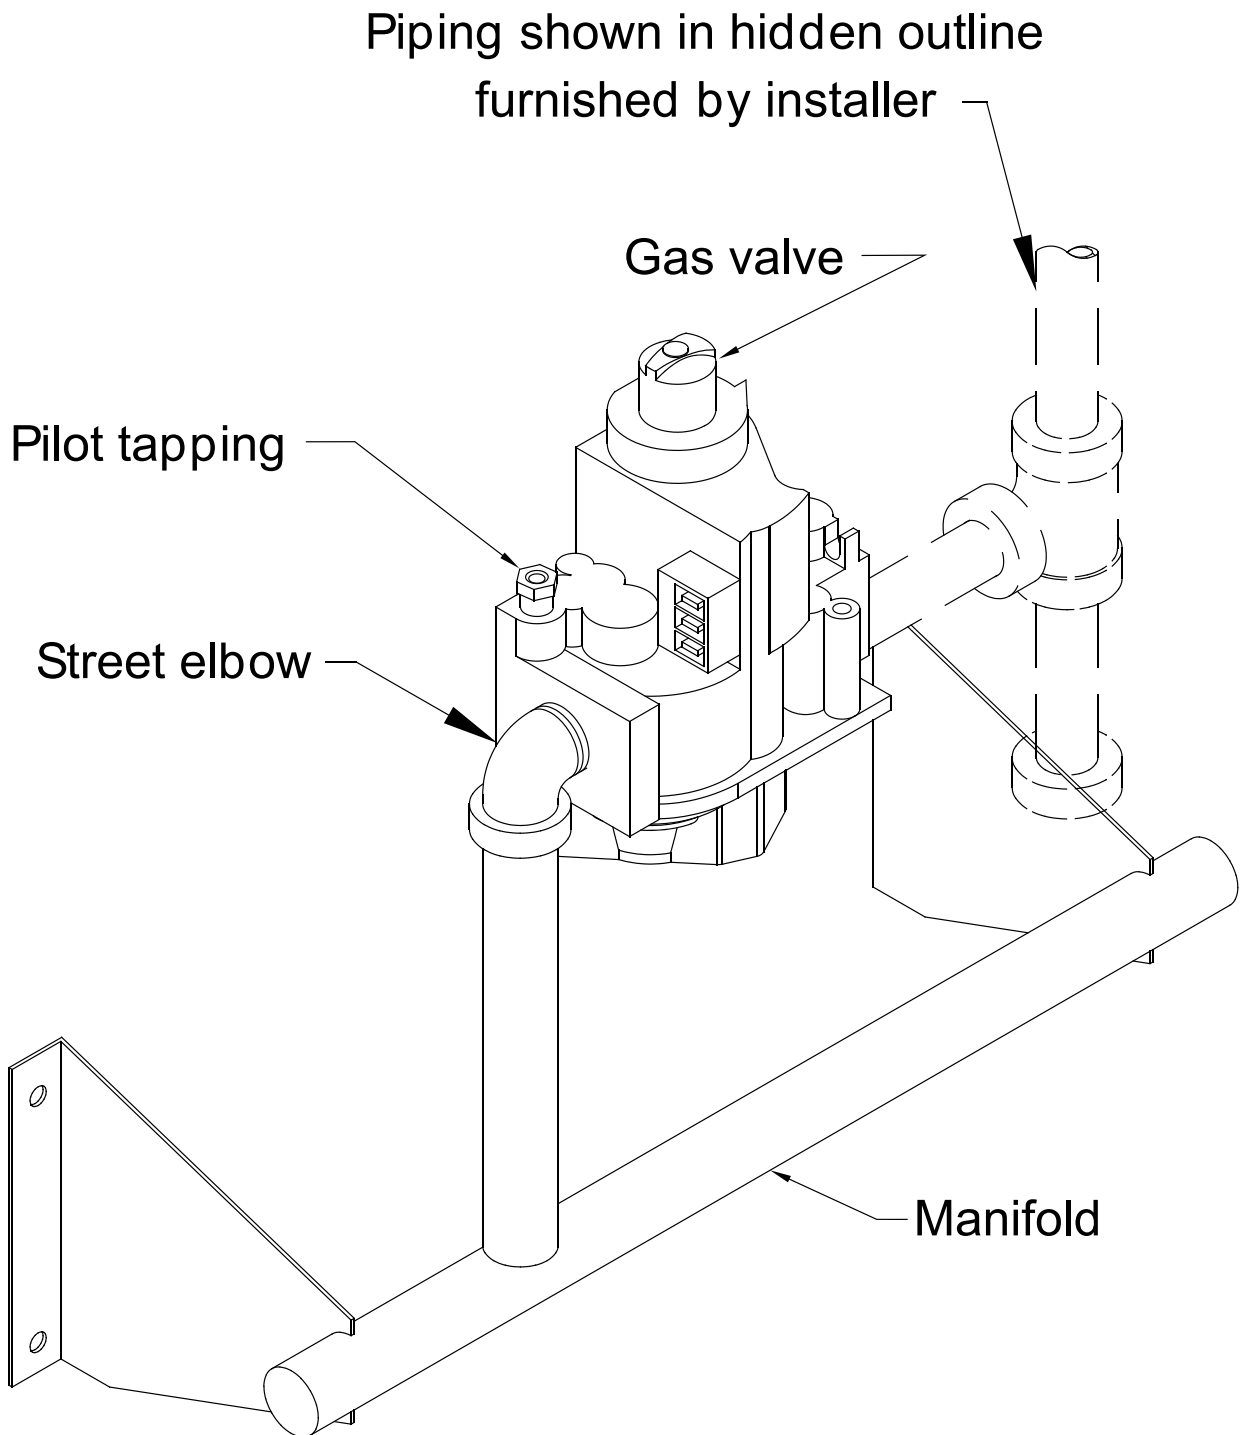

Figure 2-10: Main Gas Piping, Intermittent Ignition
1. Install Gas Control Assembly on Manifold. See Figure 2-10. Use thread (joint) compound (pipe dope) resistant to action of liquefied petroleum gas.